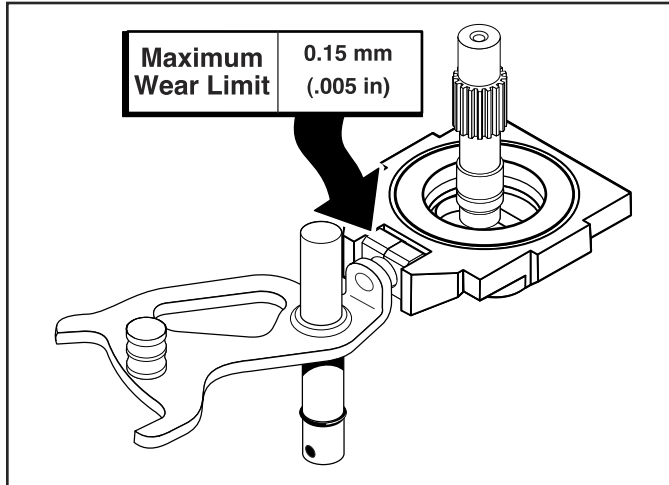

Fig. 34, Shift Blocks Clearance Tolerance
1. Before removing the Swash Plate Assembly measure the clearance (using Feeler gauge) between edge of Swash Plate's Slot and the Shift Blocks. If the clearance (gap) is  $> 0.15 \text{ mm}$  (0.005 in), replace both Shift Blocks and the Swash Plate Assembly, simultaneously. (Fig. 34)